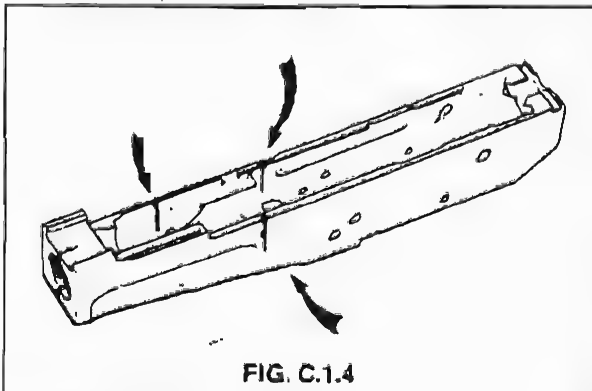

FIG. C.1-4
6. Ensure that receiver has no signs of cracks on guide rails especially above ejector, above and below barrel orifice, and in front of bolt turner on RH side of receiver. See Fig. C.1-4.